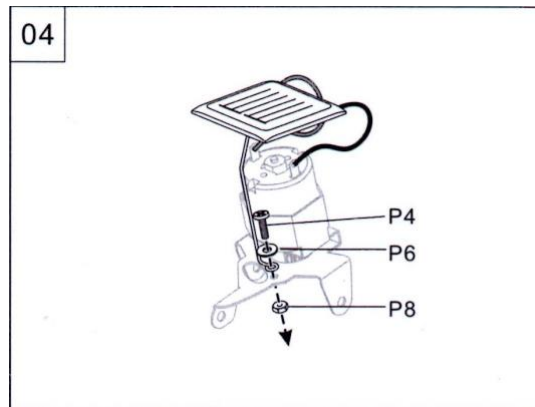

Fig. 7
4. Now, attach the sting to the base using a screw, washer, and nut. See Fig. 7